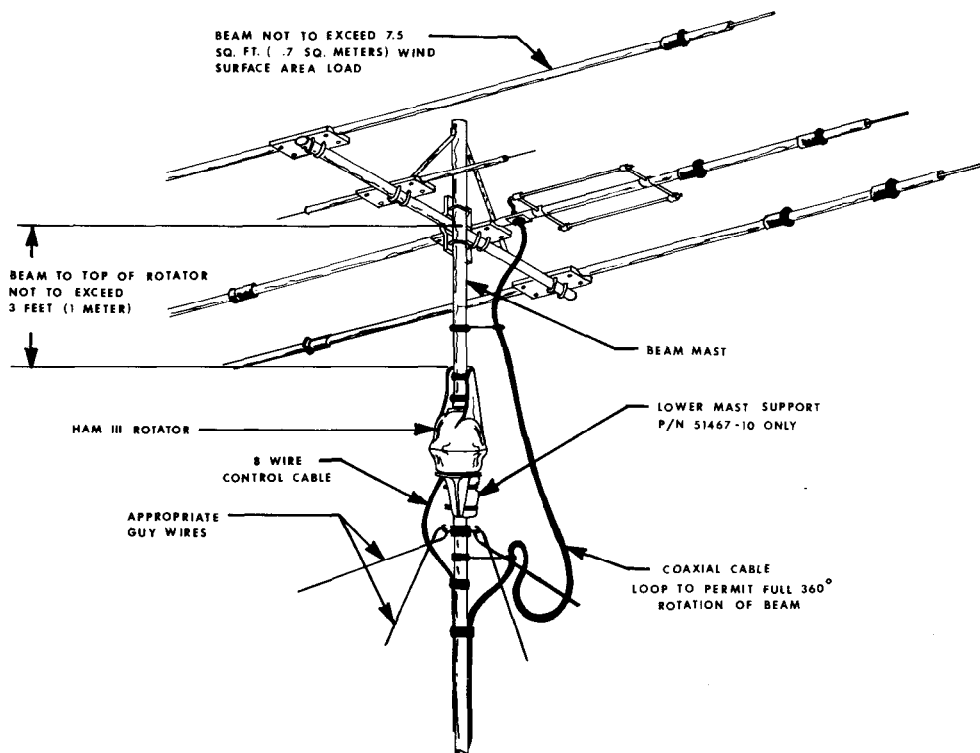

FIG. 3 - POLE MOUNTING
3. A telescoping or other-type mast as shown, see figure 3, can also be used. This installation is similar to #2 above and requires the optional Heavy Duty Lower Mast Support Kit and must be derated to 7.5 square feet.